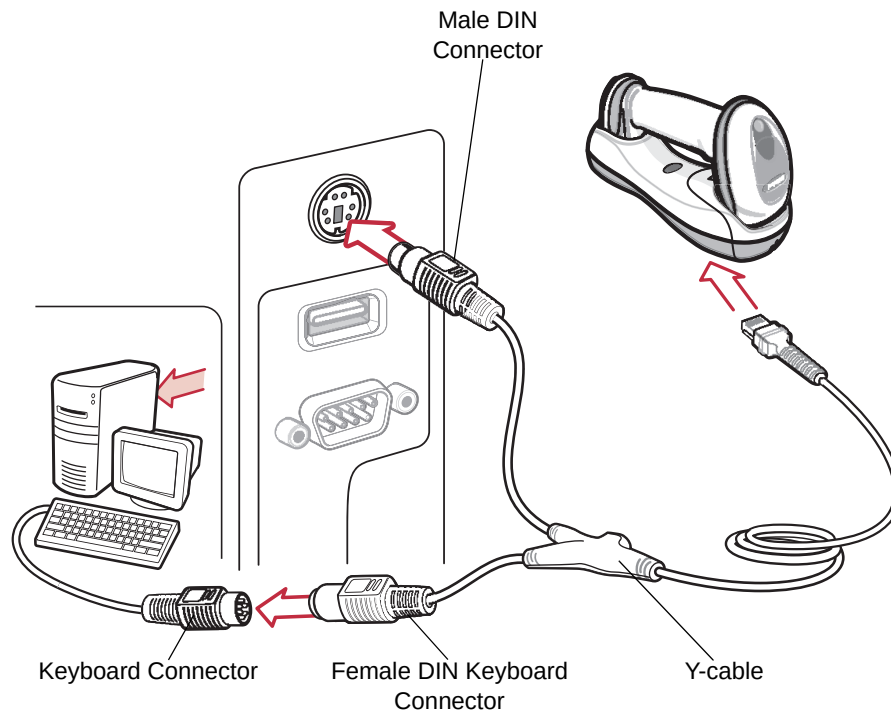

Figure 6-1 Keyboard Wedge Connection with Y-cable
- ✓ **NOTE** Interface cables vary depending on configuration. The connectors illustrated in Figure 6-1 are examples only. The connectors may be different than those illustrated, but the steps to connect the cradle remain the same.